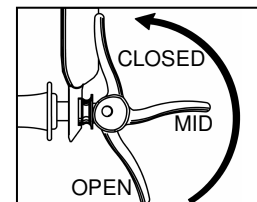
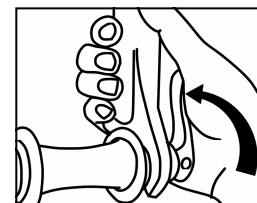
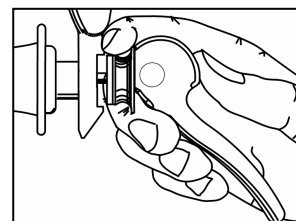

FIGURE 3
FIGURE 4
FIGURE 5
2. Open and close the quick release lever while gradually tightening the Adjusting Nut. Continue tightening the Adjusting Nut until you feel resistance on the Quick Release Lever at the "MID" point of its travel (see Figure 3).
3. Grip the fork with your fingers and use your palm to force the Quick Release Lever closed with as much strength as possible into a position parallel to the fork leg (see Figure 4).
4. The Quick Release Lever is securely closed when it leaves an imprint on the palm of your hand from moving the lever into the Closed position as shown in Figure 4.
TO REMOVE WHEEL: Open the Quick Release Lever (Figure 3), then squeeze the Cup and Quick Release Lever together (Figure 5) while removing the wheel. No rotation of any part is necessary.
TO INSTALL WHEEL: Squeeze the Cup and Quick Release Lever together (Figure 5) as you lower the fork onto the wheel Hub allowing the Adjusting Nut and Cup to snap into the recess area on the fork. Close the Quick Release Lever as shown in Figure 4. If the Quick Release Lever does not leave an imprint on the palm of your hand, follow steps 1 through 4 of Quick Release Adjustment above. Re-attach the front brake. Check that the word "Close" is facing away from the bicycle.